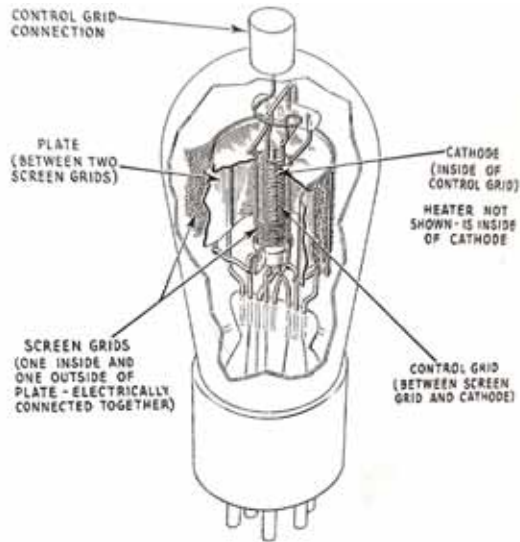
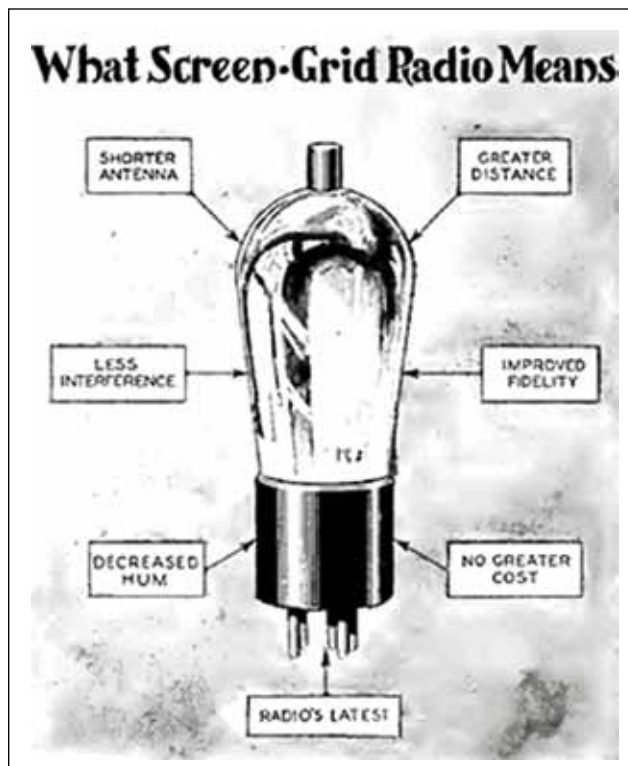
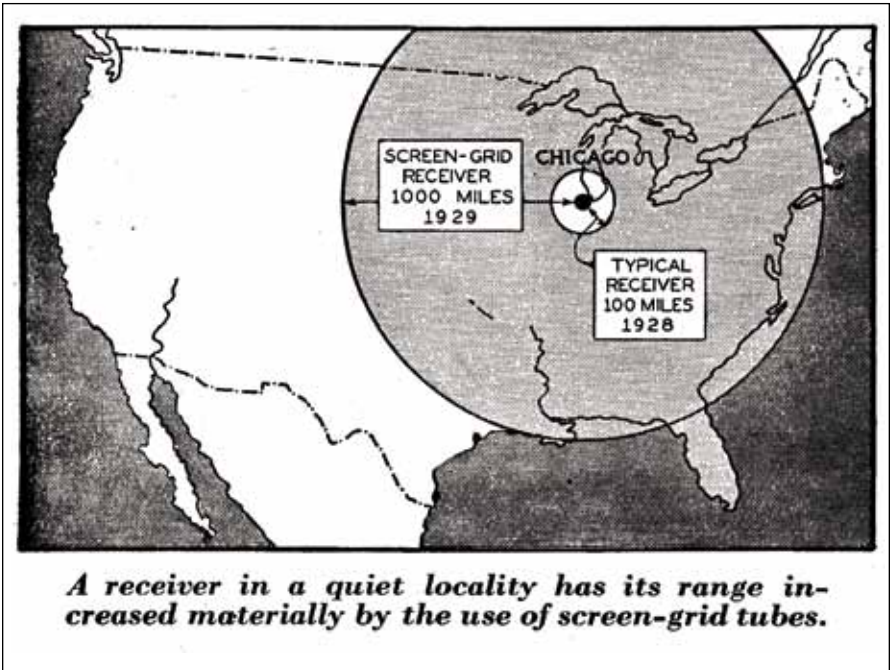
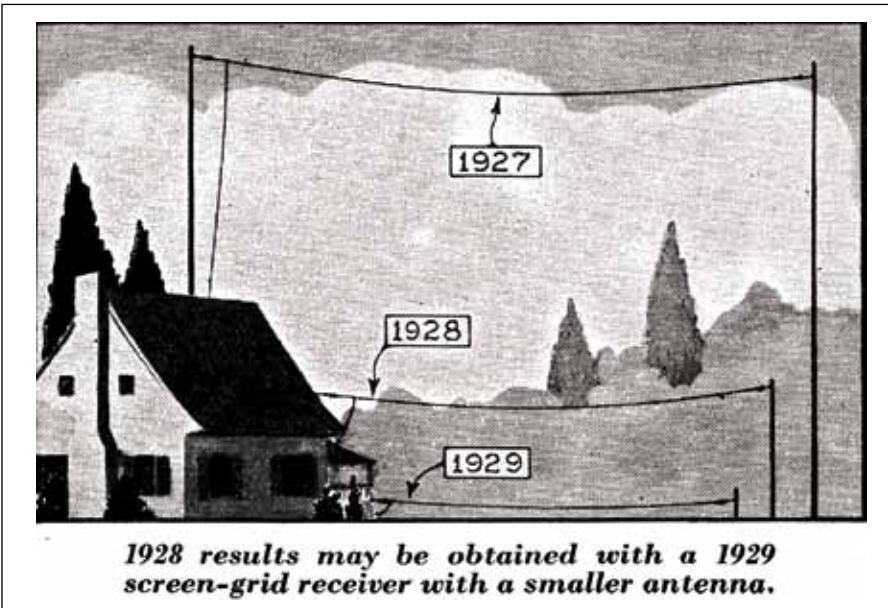

Fig. 3. Structure of the screen grid tube. (Eric Wenaas, *Radiola: The Golden Age of RCA, 1919–1929*, p. 336)
Fig. 4. What screen grid radio means. Benefits of the screen grid tube. (*Radio Broadcast*, Aug. 1929, p. 212)
Fig. 6. The reception area with a screen grid receiver increases greatly in comparison with a similar triode radio model. (*Radio Broadcast*, Aug. 1929, p. 213)
Fig. 7. More gain in the receiver gave the listener good reception with shorter antennas. (*Radio Broadcast*, Aug. 1929, p. 213)
screen grid tube. Work on the screen grid tube began in the mid-1920s when General Electric (GE) scientist, Dr. A. W. Hull, had a happy moment of serendipity. His research on one vacuum tube problem led to the solution of another problem. He had placed a metallic screen around the plate element to separate it electrically from the grid (see Fig. 3). He found that it solved the grid-to-plate capacitance problem that plagued the earlier triode tube.⁸ The screen had a sufficient number of holes to allow current to pass through from the grid to the plate and yet reduced the grid-to-plate capacitance to 0.025 pf., a negligible amount (see Fig. 4). With no feedback or regeneration, these new tubes were able to supply a much higher voltage amplification factor of 300 over the older triodes (a gain over 30 in an RF amplifier).⁹ The first screen grid tube to become available in late 1927 and early 1928 was a dry cell tube type UX-222. This was followed by an AC filament version model UY-224 in 1929. As can be seen in the graphic comparison (see Fig. 5), the gain per stage could increase from 10 to 34, giving tremendous total amplification over the receivers from just a year before.¹⁰ Radios of 1928 that were advertised as having a receiving radius of 100 miles were being replaced with screen grid sets that had a receiving radius of 1,000 miles (see Fig. 6). This meant that shorter antennas could be used (see Fig. 7).